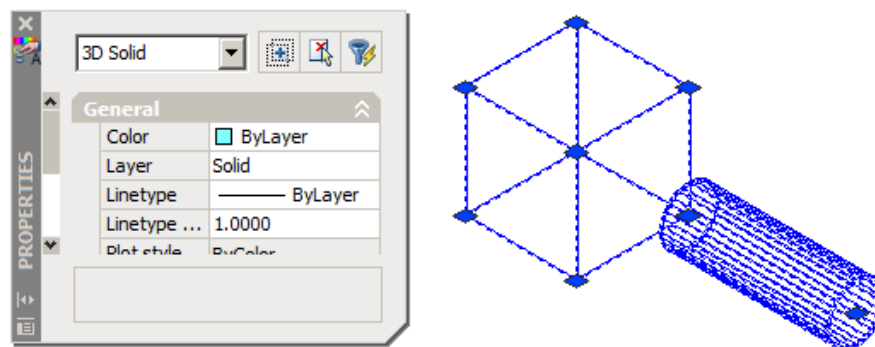

Figure Step 7
Step 7 Using the Properties window, check to ensure that the two 3D Solid objects are now one 3D Solid object. (Figure Step 7)